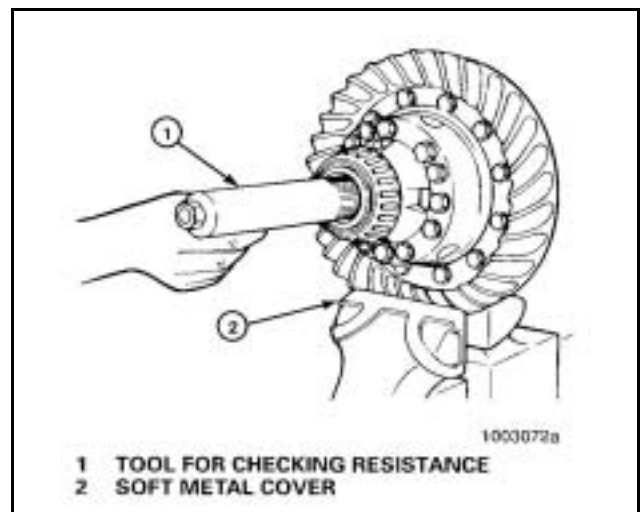

Figure 94
- a. Install soft metal covers over vise jaws to protect the ring gear. **Figure 94.**
- c. Install the tool into the differential until the splines of the tool and one side gear are engaged. **Figure 94.**